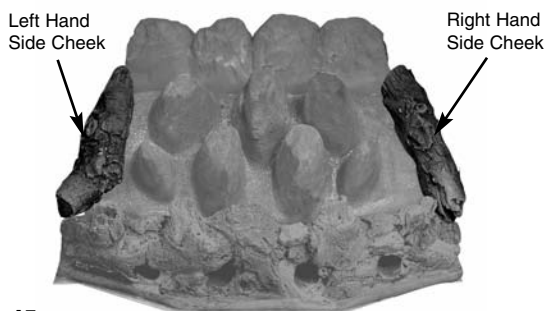

Fig. 45
4. Place the side cheeks into position, making sure they are positioned either side of the fuel bed and the overhang is at the front. The outside edge should be in contact with the radiant box ceramic liner. Ensure that the lower part of the side cheeks sit on the front coal and are in front of the rear coal (Fig. 45).